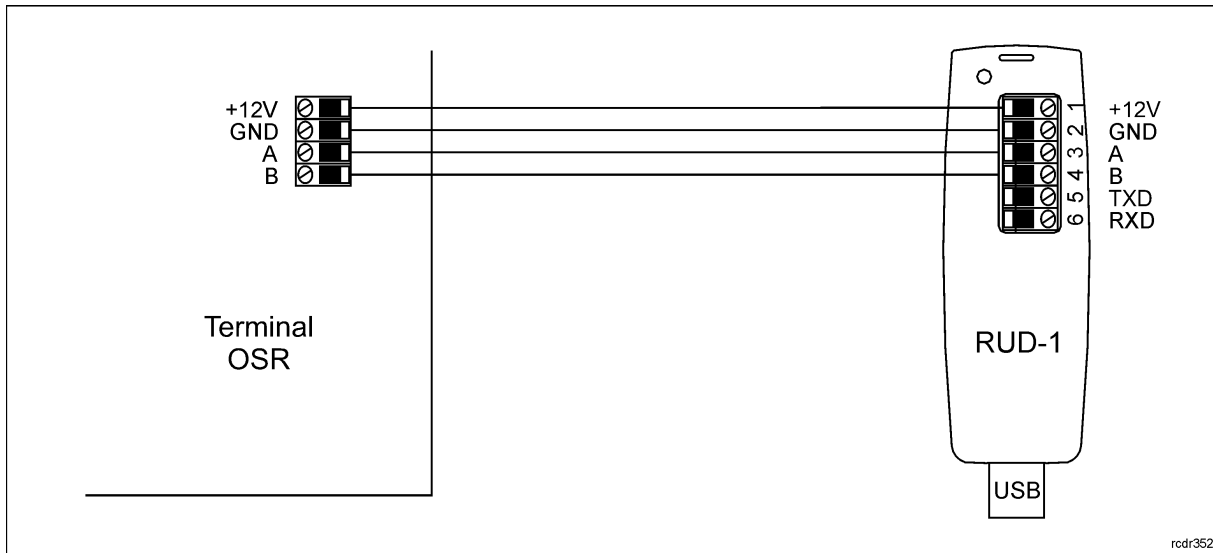

Fig. 9 Connection to RUD-1 interface.
1. Connect the device to RUD-1 interface (fig. 9) and connect the RUD-1 to computer's USB port.